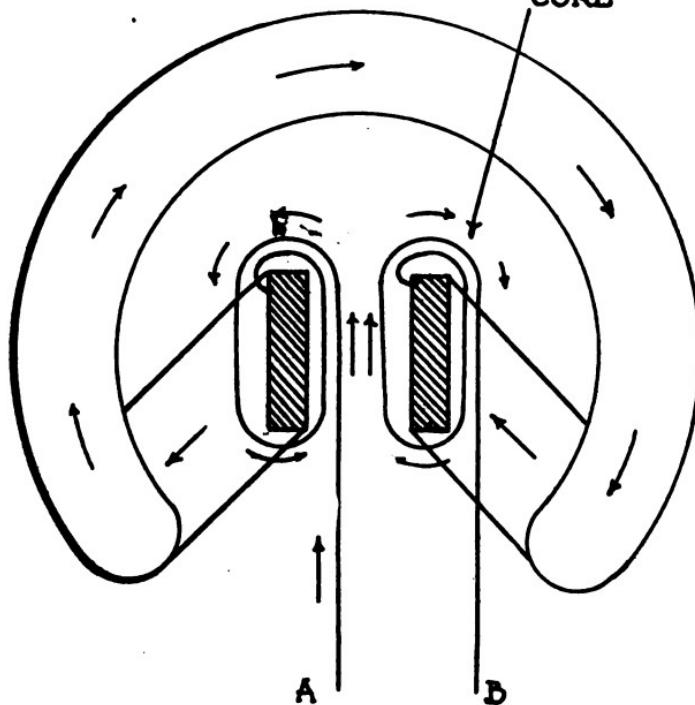

Fig. 27—Simple Way to Re-wind Watch-case Receiver
The method of winding that is the most simple is shown in Fig. 27, the wire to use being No. 40 enamel covered. One end should be soldered to the iron core or pole, and the turns should be put
spools should be wound in the *same direction*, for on tracing the current from (A) to (B) in Fig. 27 we first travel in a *left-hand* or *counter-clockwise direction* around the pole at the left, which after